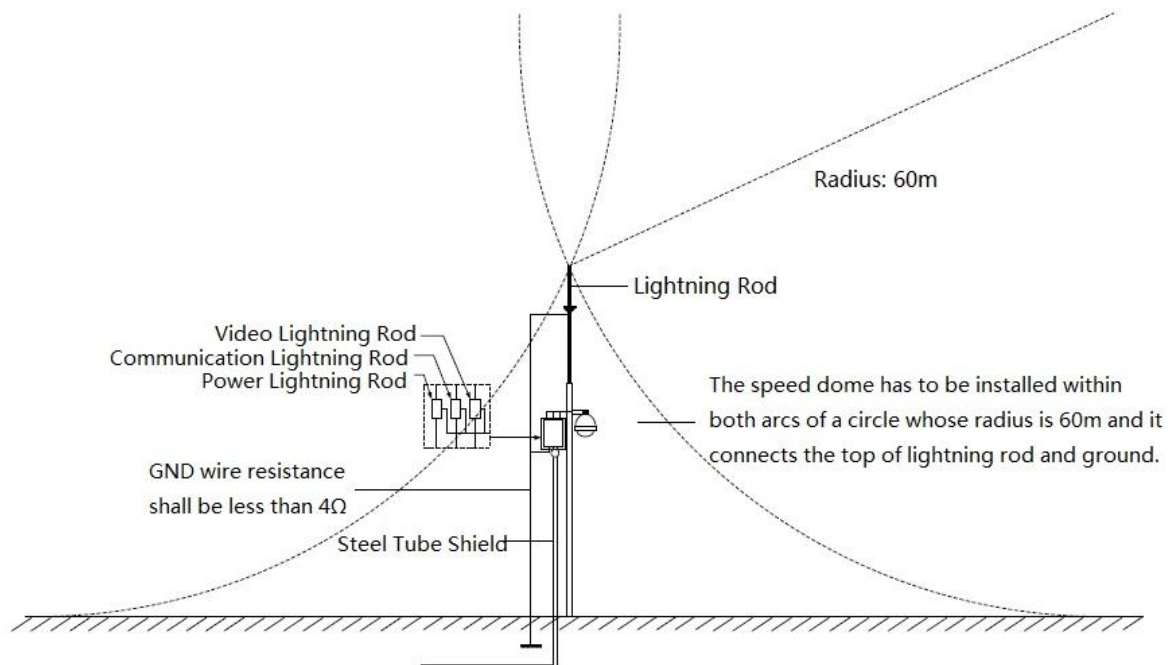

Figure 7-1
- System shall adopt equal-potential wiring. The earth device shall meet anti-jamming and at the same time conforms to your local electrical safety code. The earth device shall not short circuit to N (neutral) line of high voltage power grid or mixed with other wires. When connect the system to the earth alone, the earth resistance shall not be more than $4\ \Omega$ and earth cable cross-sectional area shall be no less than $25\ \text{mm}^2$. See Figure 7-1.